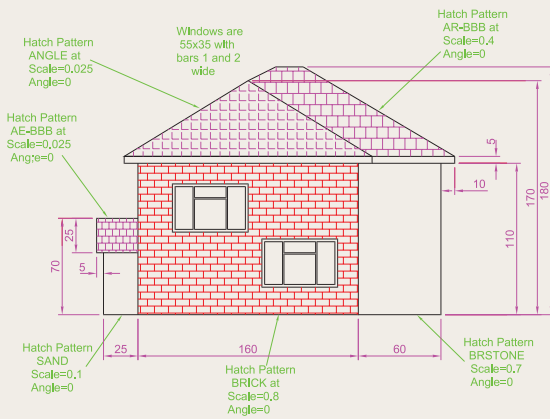

Fig. 8.24 Exercise 5
5. Working to the notes given with the drawing shown in Fig. 8.24, construct the end view of a house as shown. Use your own discretion about sizes for the parts of the drawing.